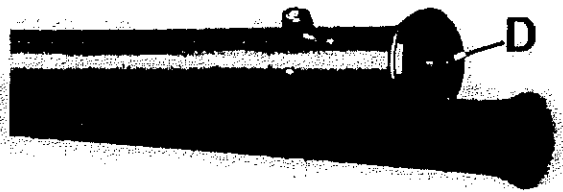
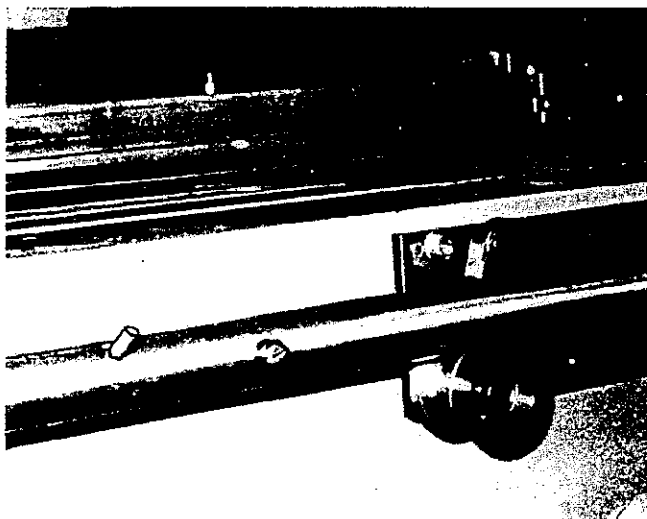

FIG. 12
FIG. 13
- 2) Loosen M10 hexagon head bolts and remove end stop 'O' FIG.12 from slide bar.
- 3) Slide bar through rollers FIG.13, with the 2 studs pointing up and out away from table. When slide bar is in position, secure end stop to slide bar FIG.12.